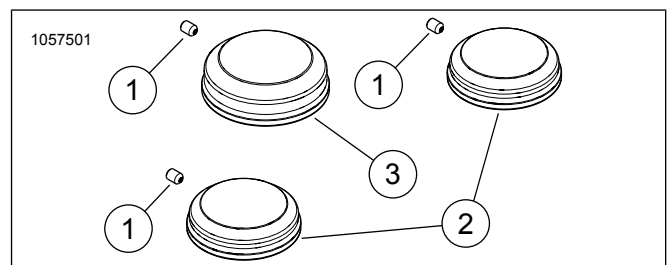

Figure 2. Service Parts: Fork Tube and Stem Cover Kit
See Figure 2 and Table 1.
1. See Figure 2. Place smaller slider tube cap covers (2) over slider tubes.
3. **Kit 45500308 only.** See Figure 2. Remove stock fork stem nut cover.
4. Place larger fork stem nut cover (3) over fork stem nut.
5. Set screws must tighten against a flat (1) of fork nut as shown. Tighten.